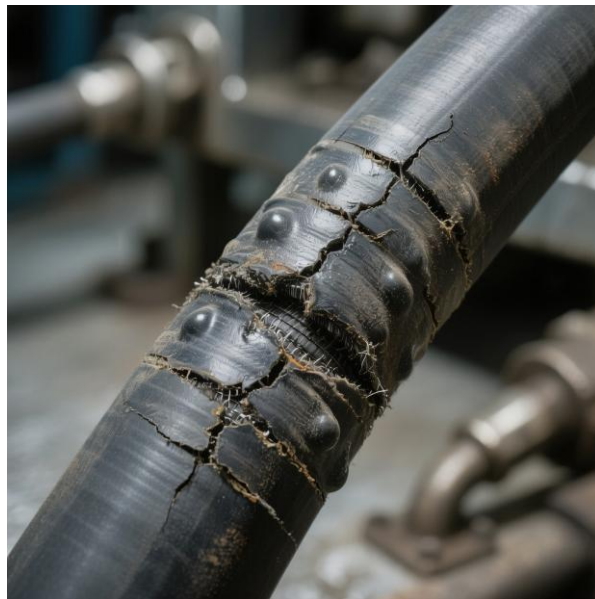

Figure 8.3: A hydraulic hose showing dangerous cracking and blistering. This hose must be replaced immediately.
- Cracks, bulges, or blisters on the outer cover of the hose. See Figure 8.3.